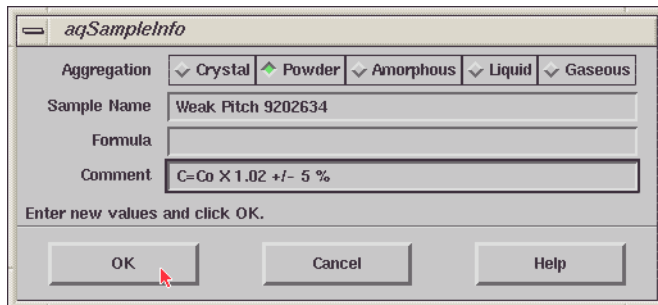

Figure 3-3 The sample information dialog box.
2. **Input the sample information.** Click Acquisition in the menu bar and then Sample Info. (See Figure 3-3.) Enter the weak pitch information. Click OK to continue.